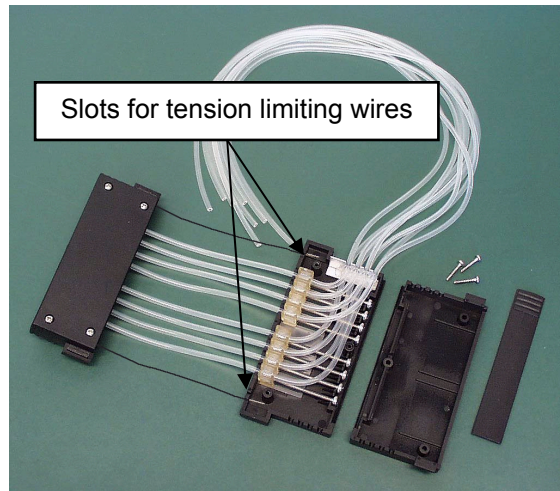

Fig. 7.26 Calibration screws fastened
11. Insert the tension limiting wires into their slots into the upper part of the dispensing cassette (Fig. 7.26).